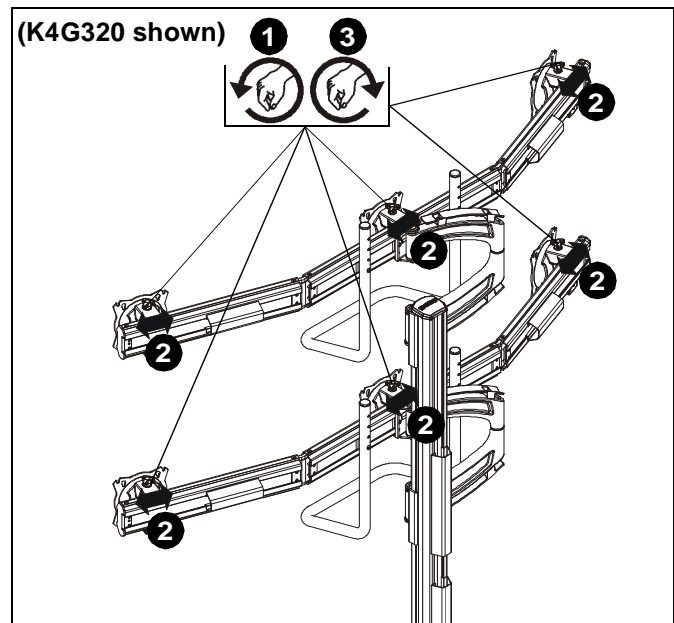

Figure 16
1. Loosen knob on top of faceplate assembly until faceplate can slide freely along array. (See Figure 16)
2. Adjust lateral position as desired. (See Figure 16)
3. Tighten knob to secure lateral position. (See Figure 16)